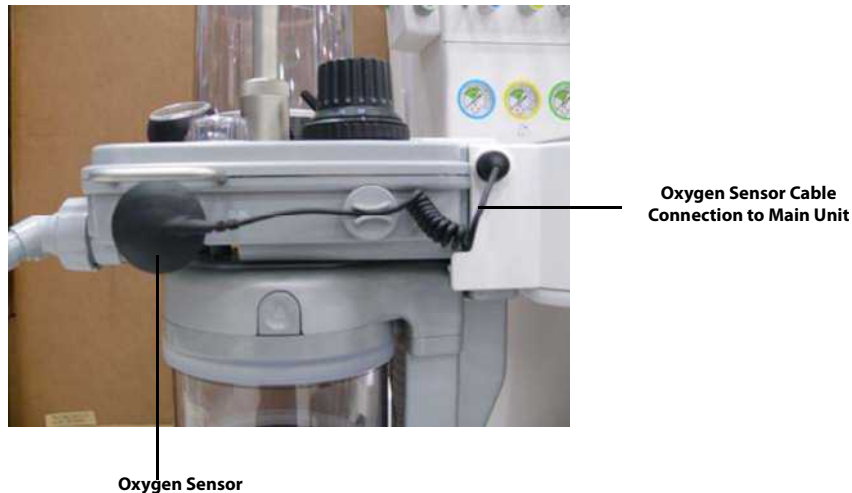

FIGURE 7-13 Oxygen Sensor and Cable
1. The oxygen sensor is a component that is pressed into position for use. It is not necessary to remove this component to clean it. However, if removal is desired, first disconnect the oxygen sensor cable from the main unit as shown in FIGURE 7-13. Then hold the oxygen sensor and pull straight out firmly from the breathing system block